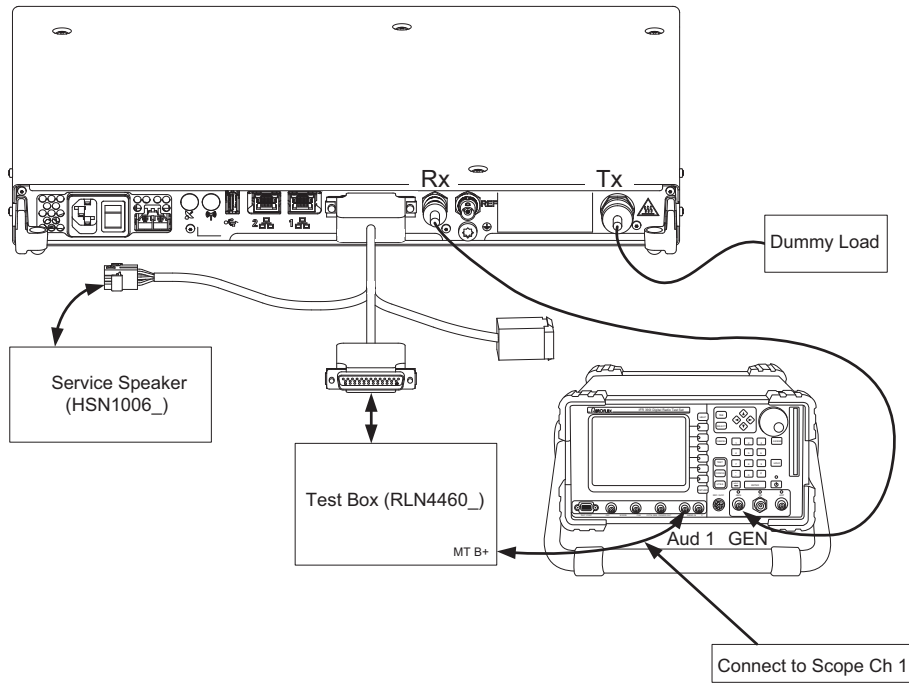

Figure 9-2 Test Equipment Setup for Verifying Receiver Circuitry
1. Connect equipment as shown in Figure 9-2.